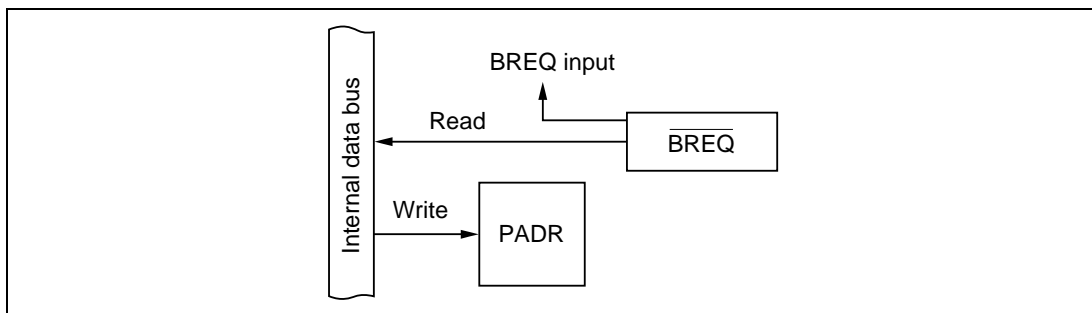

Figure 10-65 $\overline{\text{BREQ}}$ Input Pin (Modes 1 to 6)
(3) **$\overline{\text{BREQ}}$ Pin (PA₅; Modes 1 to 6):** Figure 10-65 shows a block diagram illustrating the $\overline{\text{BREQ}}$ function. Table 10-48 indicates register read/write data. When PA₅ is used for $\overline{\text{BREQ}}$ input, the value written in the port A data register (PADR) has no effect.